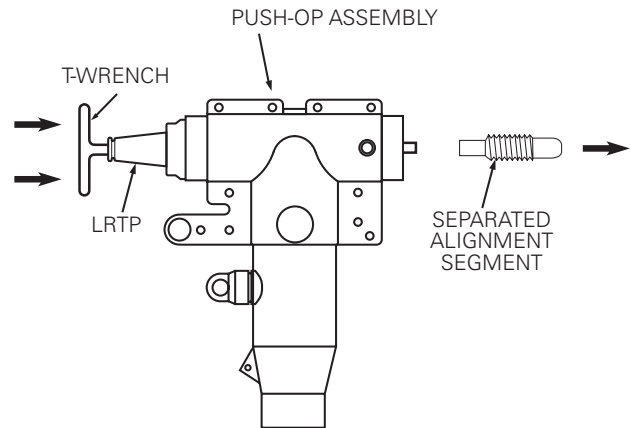

Figure 9. LRTP permanently installed into T-body forming the PUSH-OP assembly.
- See Figure 9 for illustration of completed LRTP installation.